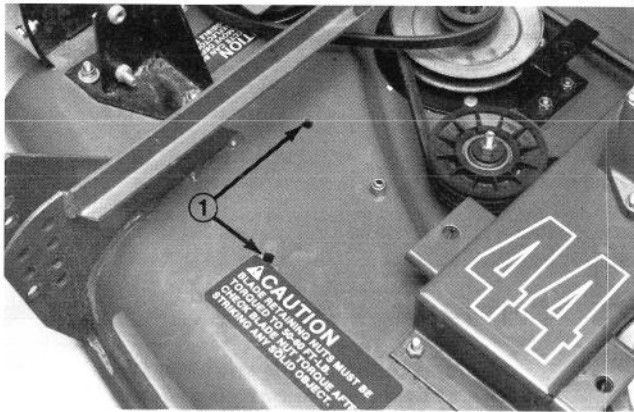

Figure 13
4. With idler assembly pushed into belt, mark slot location on deck. Drill a 11/32 in. diameter hole near pulley end of each slot. File holes square to accommodate carriage bolts (Fig. 13).